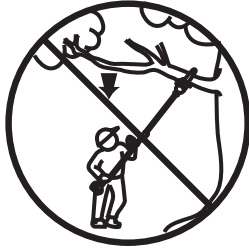

Fig. 4
12. Never stand directly under the limb you are trimming. Always position yourself out of the path of falling debris (Fig. 4).